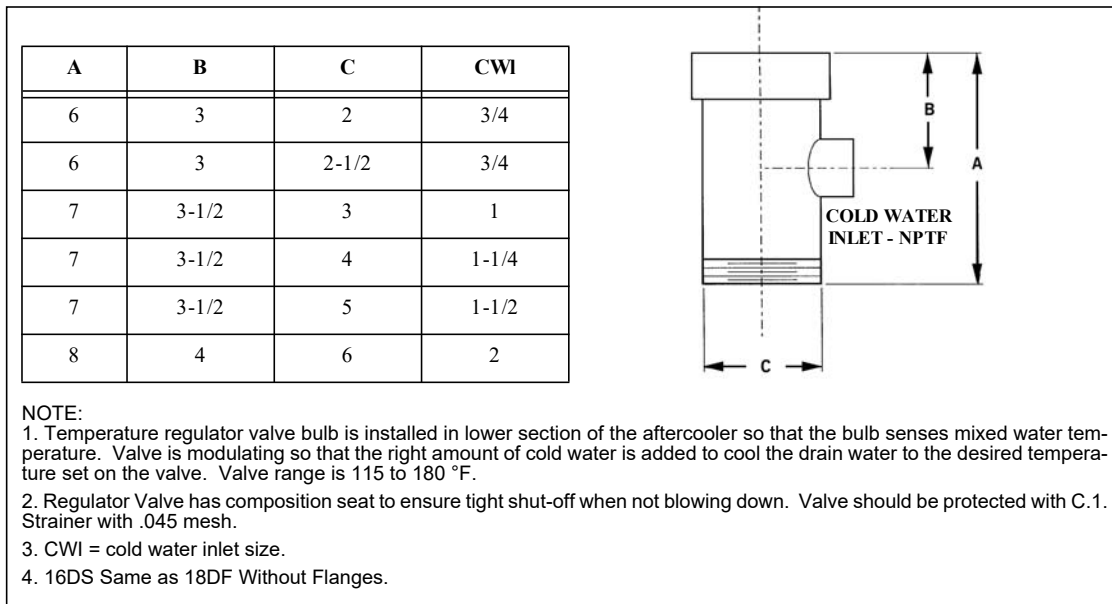

Figure 5. Model 5D Dimensions
- The Model 5D Drain Tempering Fitting (Figure 5) - Simple type of aftercooler for adding cooling water with manual control. It has a cold water inlet for adding cooling water to drain for tempering to 120 °F. Inlet is sized for minimum influent water conditions of 60 °F water at 40 psig pressure with 100 sq-ft of supply. When ordering, state Model 5D (drain diameter); i.e. for 4" drain use Model 5D 4.